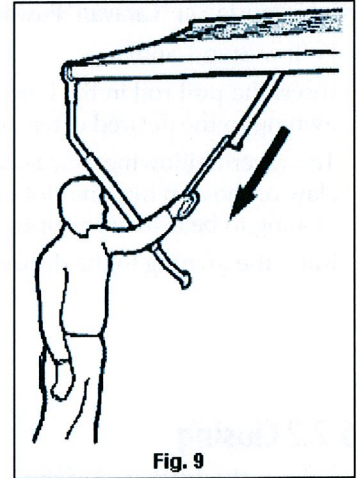

Fig. 9
2. Insert the pull rod into the loop of the center control strap and unroll the awning by pulling it toward you. (Fig. 9). Step under the awning and roll or fold the control strap toward the backside of the roller and tuck under the restraining strap.